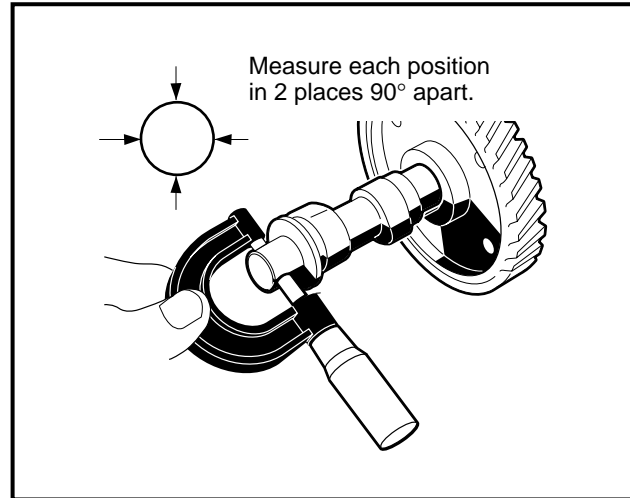
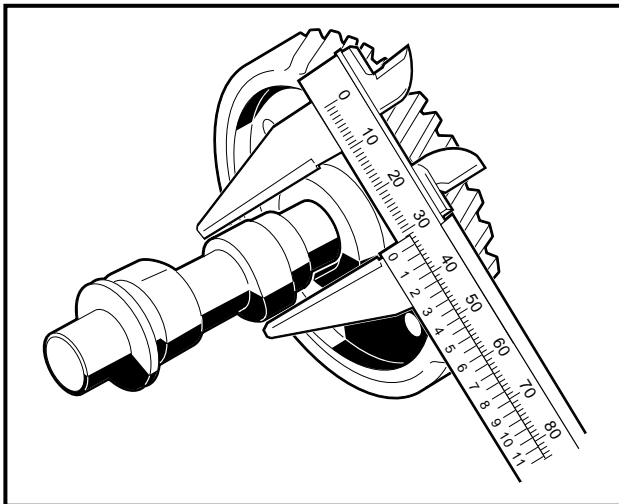

Figure 13-48 Measure O.D. of Camshaft Journals
Figure 13-49 Measure O.D. of Cam Lobes
5. Measure the camshaft journals and cam lobes with a micrometer at the points shown (**Figure 13-48, Page 13-26 and Figure 13-49, Page 13-26**).